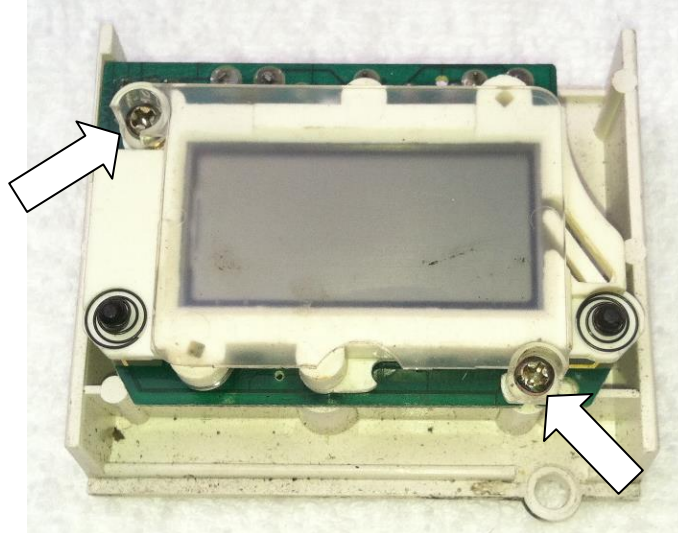

Figure 1: Remove 2 screws
3. Remove the 2 screws shown in Fig 1 and separate the circuit board from the plastic cover and housing.
12. Flip the clock over and place the clear cover over the screen. Tighten the 2 screws (so now the assembly looks like Fig 1).